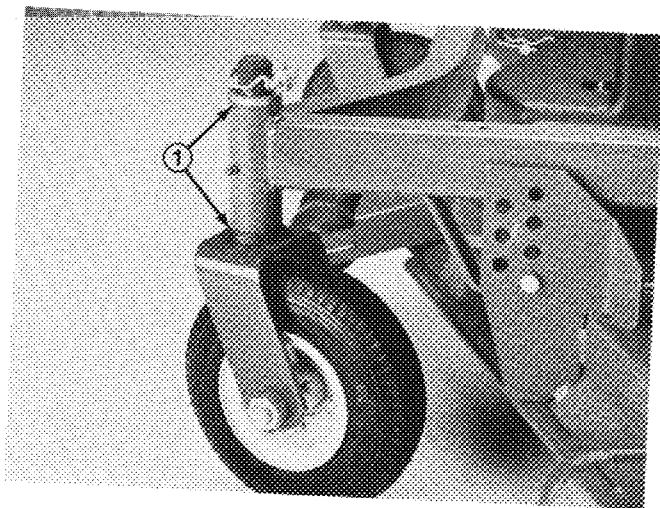

Figure 12
4. Insert pin punch into top or bottom of mounting tube and drive bushing out of tube (Fig. 12). Also drive other bushing out of tube. Clean inside of tubes to remove dirt.